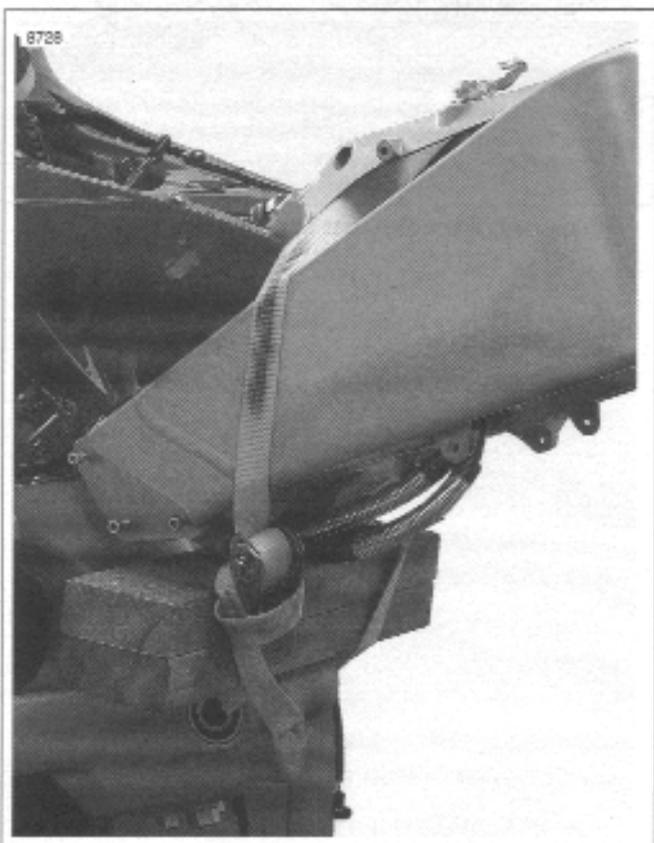

Figure 3-33. Securing Vehicle for Relocation
42. See Figure 3-33. Place a block of wood between rear isolator mount on main frame and swingarm/oil tank.